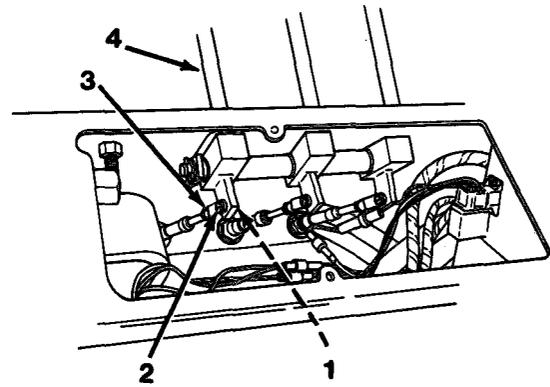
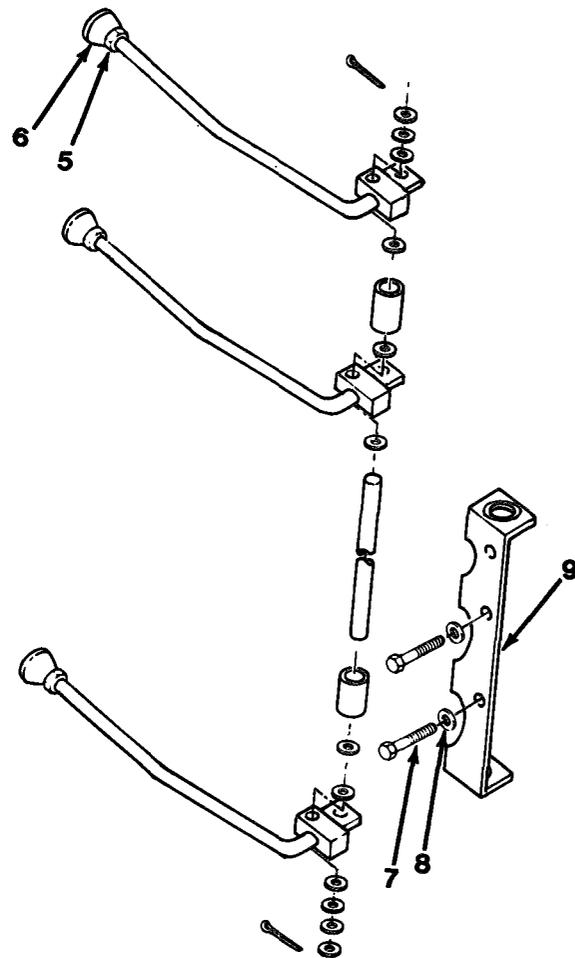

Figure 17-1
Figure 17-2
2. Remove three cotter pins (1) and pins (2) to disengage yokes (3) from handles (4, Figure 17-1).
3. Loosen three jam nuts (5) and remove knobs (6, Figure 17-2) and jam nuts (5).
4. Remove two capscrews (7), lockwashers (8) and bracket (9).
1. Position bracket assembly (9, Figure 17-2) under dash panel.
2. Install two lockwashers (8) and two cap-screws (7).
3. Install three jam nuts (5) and knobs (6) and lock in place with jam nuts (5).
4. Position three yokes (3) on end of handles (4, Figure 17-1).
5. Install three pins (2) and cotter pins (1).